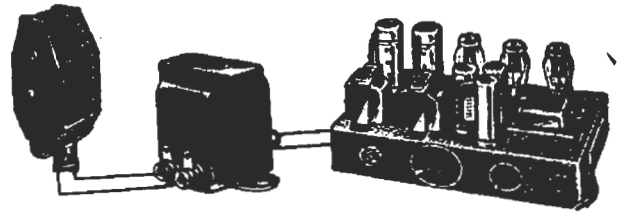

FIG. 24. An audio frequency example of inductive coupling.
**Practical A.F. Application.** A very common and practical low-frequency application of inductive coupling is that shown in Fig. 24, where a microphone serves as a source of a.f. signals, an audio amplifier serves as a load, and an iron-core coupling transformer serves to transfer to the source the effects of the load. This coupling transformer can be designed to deliver maximum voltage or maximum power to the load.